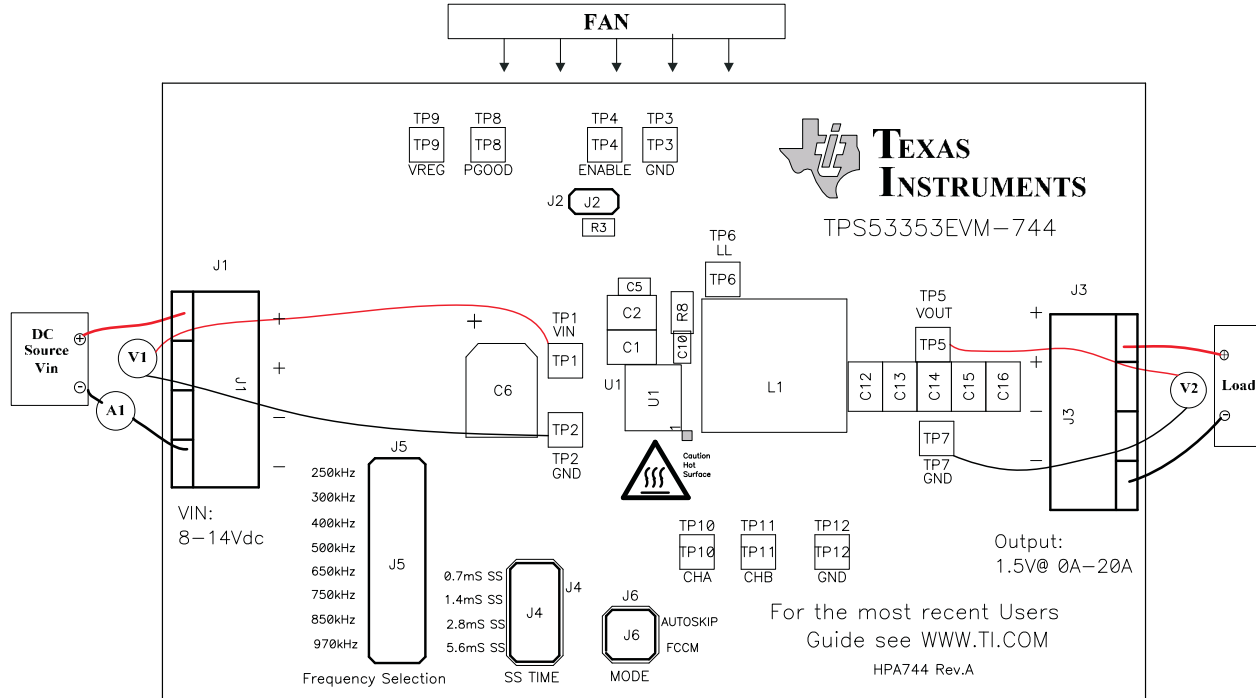

Figure 4-2. TPS53353EVM-744 Recommended Test Setup
Voltage Source: The input voltage source V_{IN} must be a 0-V to 14-V variable DC source capable of supplying 10 A_{DC} . Connect V_{IN} to J1 as shown in Figure 4-2.
Figure 4-2 is the recommended test setup to evaluate the TPS53353EVM-744. Working at an ESD workstation, make sure that any wrist straps, bootstraps or mats are connected referencing the user to earth ground before power is applied to the EVM.
1. Before connecting the DC input source V_{IN} , it is advisable to limit the source current from V_{IN} to 10-A maximum. Ensure that V_{IN} is initially set to 0 V and connected as shown in Figure 4-2.
Place a fan as shown in Figure 4-2, and turn it on, ensuring that air is flowing across the EVM.
1. Set up the EVM as described in Section 4 and Figure 4-2.
1. Set up EVM as described in Section 4 and Figure 4-2.